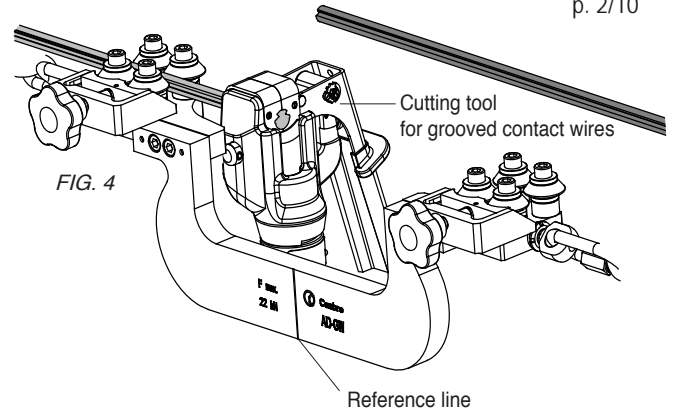

FIG. 4
- 4** (Ref. fig. 4) Cutting the contact wires using a **Cembre** hydraulic cutting tool equipped with the appropriate dies, will ensure a perpendicular cut without deformation of the profile.